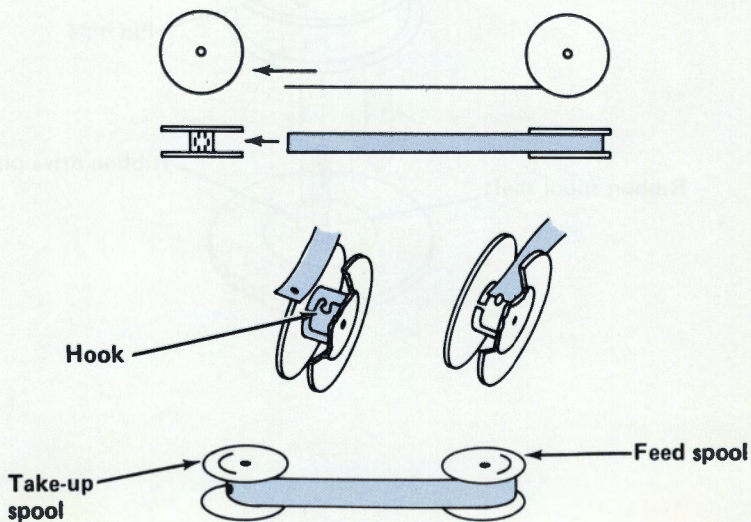

Figure 1-8
- When you reach the left side, hold the empty spool so the arrow faces the full spool. Attach the end of the ribbon (sometimes there is a hole in the ribbon for this) to the hook on the empty spool core, and wind the ribbon onto the spool (refer to Figure 1-8).